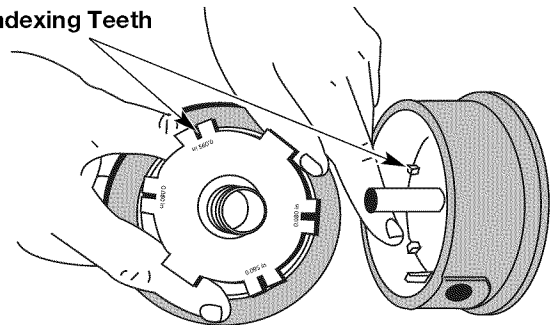

Fig. 29
5. Check the indexing teeth on the inner reel and outer spool for wear (Fig. 29). If necessary, remove burrs or replace the reel and spool.